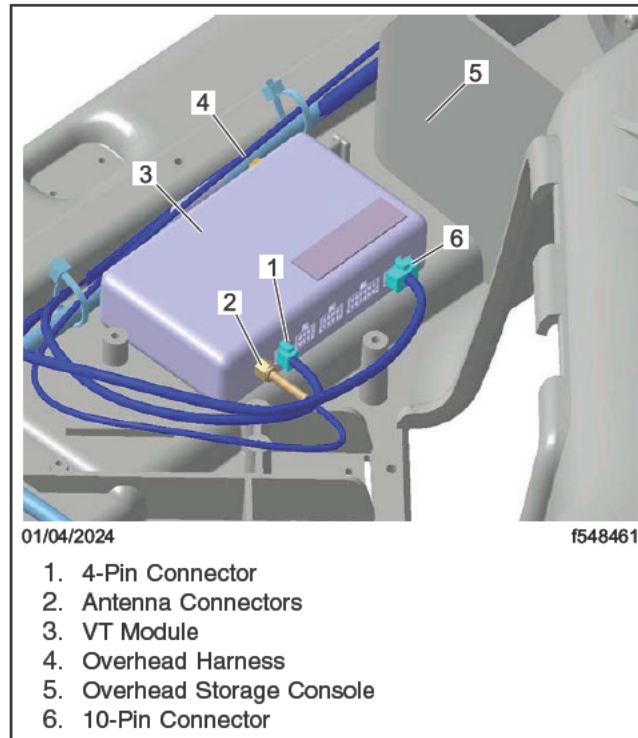

Fig. 16, VT Module Wiring Installation
5. Locate the 10-pin, 4-pin, and antenna connectors, and attach them to the VT module, as shown in **Fig. 16**.